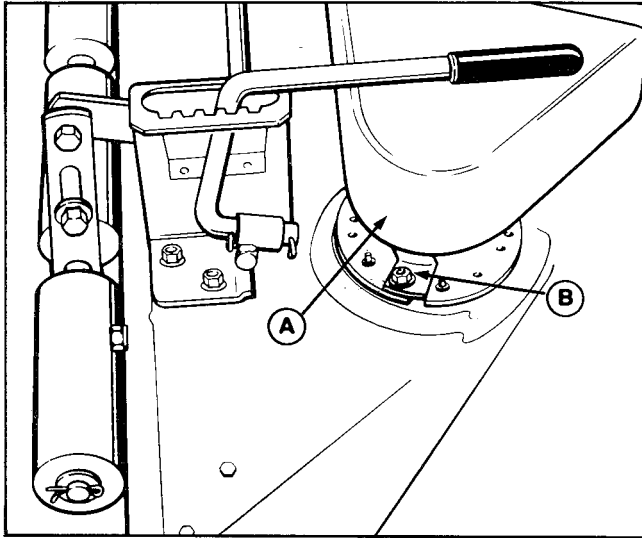

Figure 1.
1. Remove the right-hand arbor cover (A, figure 1) by removing bolts, washers and nuts in front that hold cover to deck. Also, remove nut (B) and washers that secure rear tab to arbor.